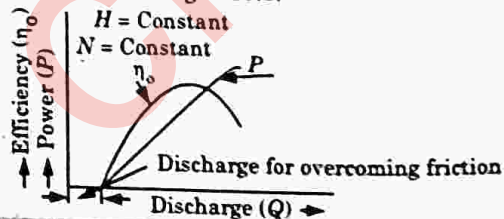

Fig. 5.26.3. Operating characteristic curves.
- These curves are shown in Fig. 5.26.3.